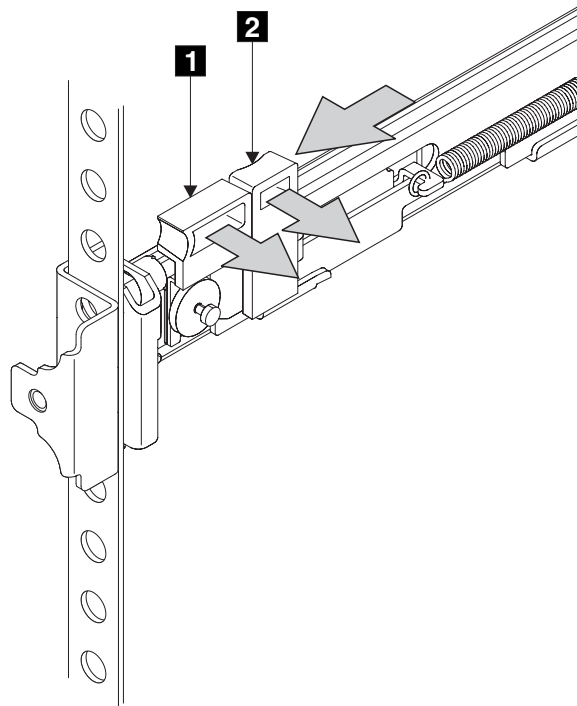

Figure 124. Closing the latch-lock carrier assembly
8. Push the latch lock **2** (Figure 124) away from the rail to release the carrier. The latch-lock carrier slides toward the front of the rack and the locating pins project through the holes that are in the front flange and in the front rail bracket.